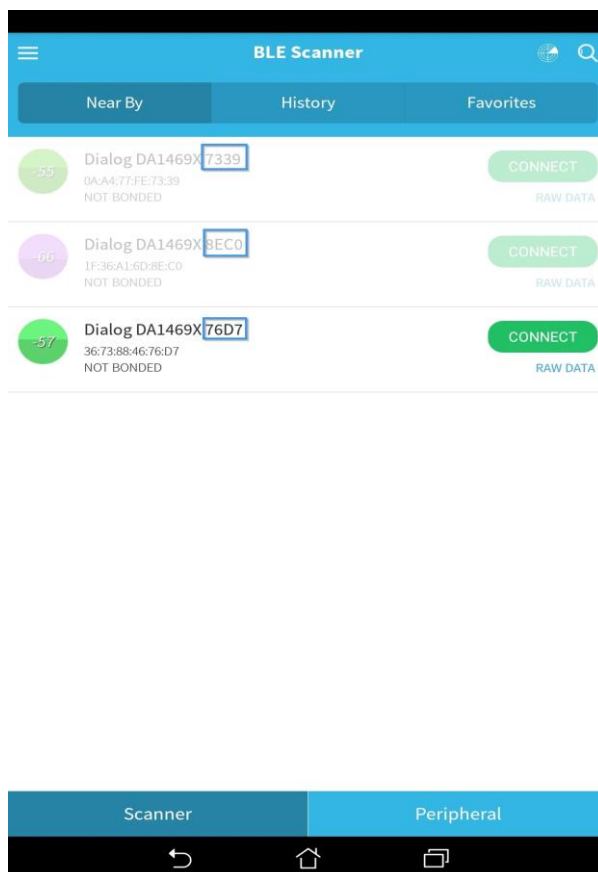

Figure 34: Pre-Loaded Demo: Interacting with BLE Application
- **Step 4:** The ProDK now starts to advertise over Bluetooth. The Pre-Loaded demo application is executed from QSPI flash. Open your BLE scanner application to scan and connect to the Dialog DA14695 device. Refer to **Figure 34**.
The number shown in **Figure 34** is aligned with the number observed on the Terminal program **Figure 10** for windows.